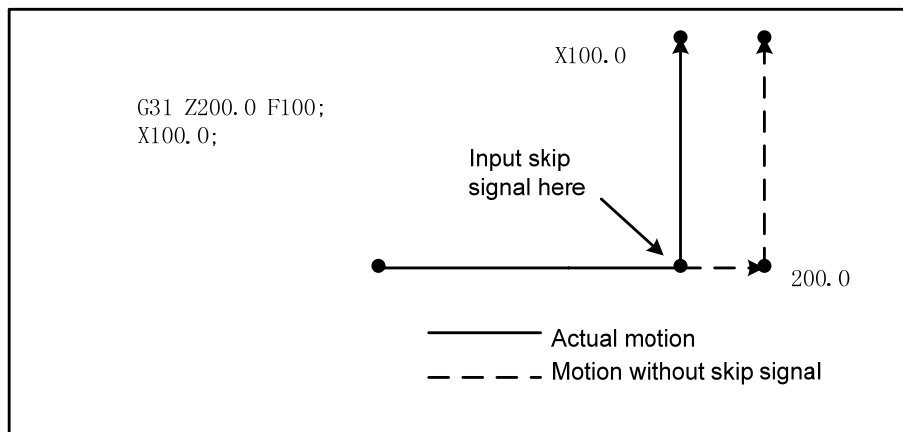

Fig. 3-52
2. The next block of G31 is the absolute coordinate programming of one axis as Fig. 3-52: